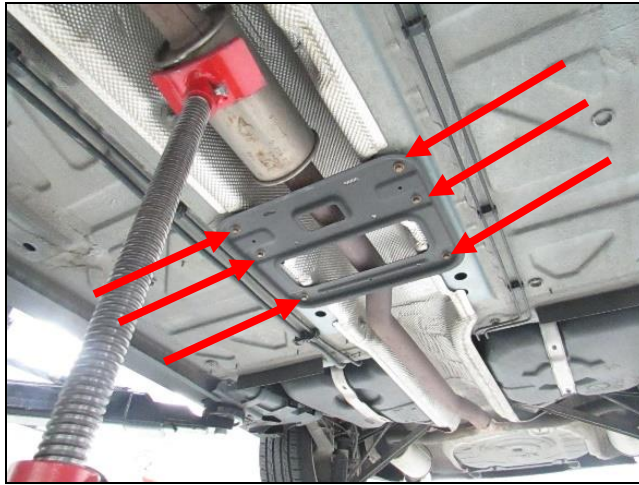

Figure 3
4. With a jack stand, hold the OE exhaust up, remove the (x6) 10mm bolt heads, and remove the cross brace (**Figure 3**).